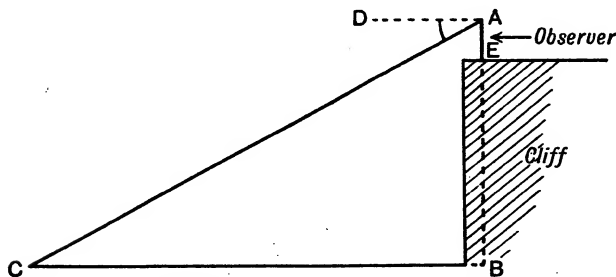

FIG. 76. MEASURING THE ANGLE OF DEPRESSION
V. Height of cliff measured from the top, or distance of boat, or buoy, at sea.—Either of these can be obtained, if the other is known, by measuring the angle of depression of the ship from the top of the cliff, Fig. 76.